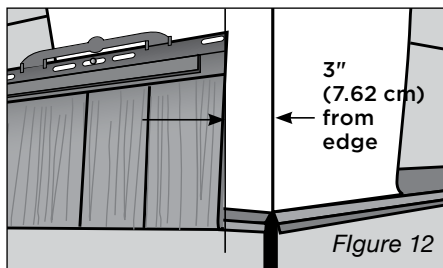

Figure 12
1. Install the first Heartwood PRO panel 3" (7.62 cm) from the edge of the outside wall (Figure 12).